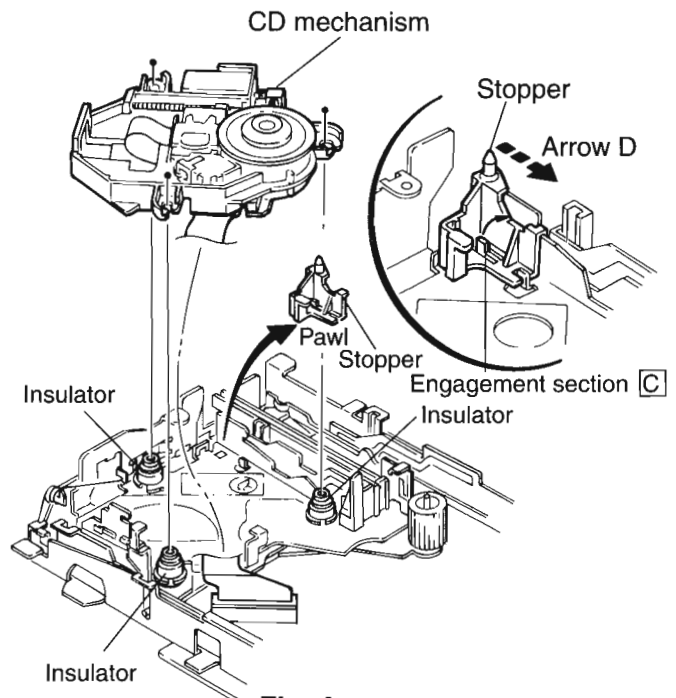

Fig. 4
7. Move the center pawl in the arrow D direction and remove the stopper fixing the CD mechanism as shown in Fig. 4.
8. Remove and take out the three insulators from the CD mechanism by using tweezers and so forth (see Fig.4).